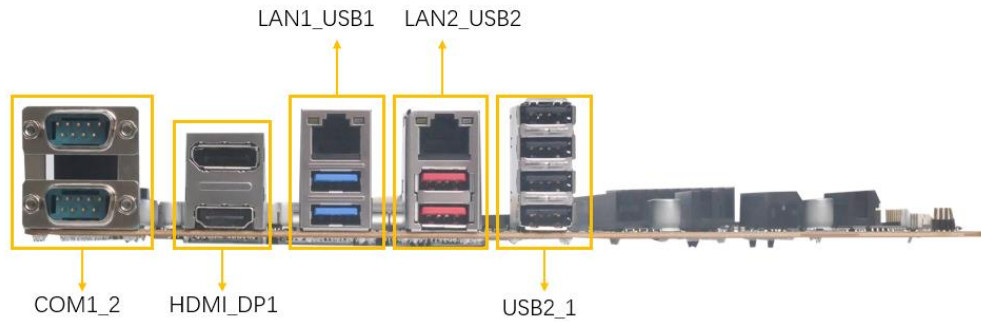

Figure 3-33: External Peripheral Interface Connector
- CN Location:** See Figure 3-33
- CN Location:** See **Figure 3-33**